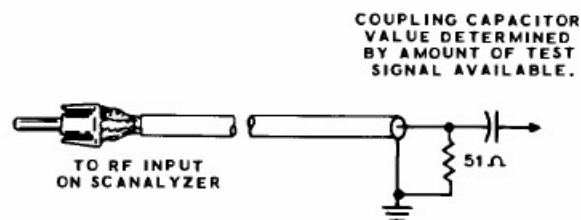

Figure 38
- () Make up a test lead of small 50 Ω coaxial cable (not provided) with a phono socket installed at one end. See Figure 38. The cable should be long enough to reach from the Scanalyzer to the circuit being tested,
- () Connect a 51 Ω (green-brown-black) resistor between the center conductor and shield at the other end of the coaxial cable. See Figure 38.
- () If the signal to be tested has a DC component, connect one lead of a blocking capacitor to the center conductor at this same end of the coaxial cable. See Figure 38.